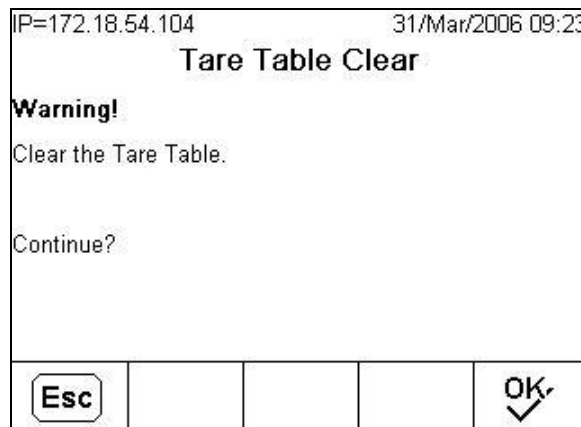

Figure C-15: Clear Tare Table Warning Screen
- Press the CLEAR softkey **C** when viewing the first setup page for the table in Setup at Application > Memory > Tare Table. The screen shown in Figure C-15 displays.